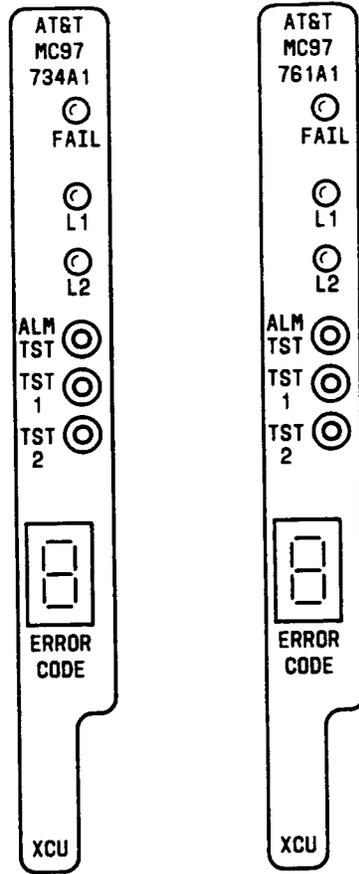

Figure 14 — XTC Control Unit (MC97734A1 or MC97761A1)
2.25 Mounted on the faceplate of the XCU circuit pack (Figure 14) are:
2.26 The MC97761A1 XCU (Figure 14) provides all of the functions of the MC97734A1 XCU plus more: